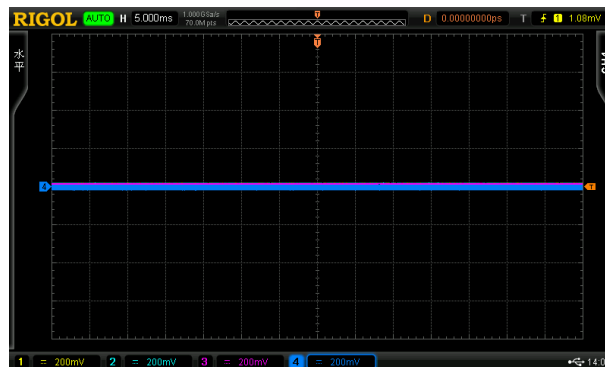

Figure 6
5. Turn all the channels on and set all the channels to 200mV scale and observe whether there are evident thorns on the waveforms at 2ms, 5ms and 10ms horizontal scales. The normal waveform is as shown in figure 6. Calibrate again when evident thorns occur.